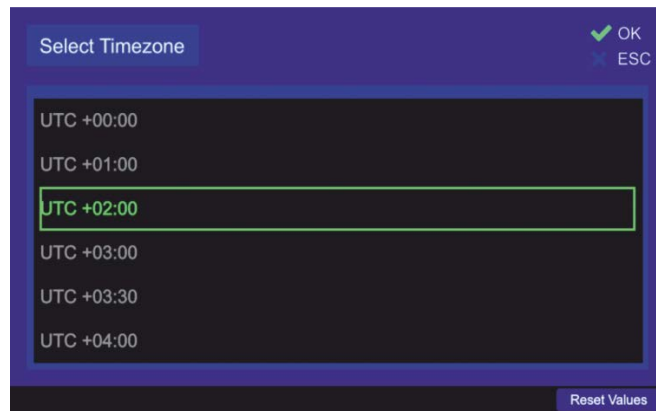

Fig. 134 "Select Timezone" dialog
- Choose the proper time difference (local time) to the UTC time using the drop down dialog (s. Fig. 134).